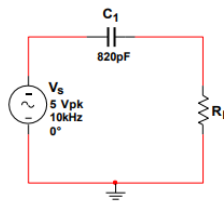

Figure 1.1 – AC Analysis Circuit
1. **Build** the circuit in **Figure 1.1** on a breadboard.
5. **Connect** a **BNC to mini-grabber** test lead from the open end of the BNC T-connector and connect the mini-grabber ends as V_s of the circuit in **Figure 1.1**.